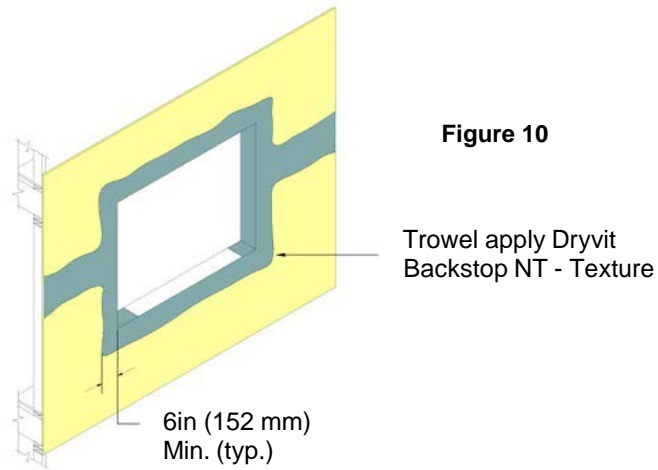

Figure 10
- 2) Using a stainless steel trowel apply Backstop NT – Texture over the Grid Tape extending to the inside face of the opening and onto the face of the exterior sheathing a minimum of 6 in (152 mm) – Figure 10.